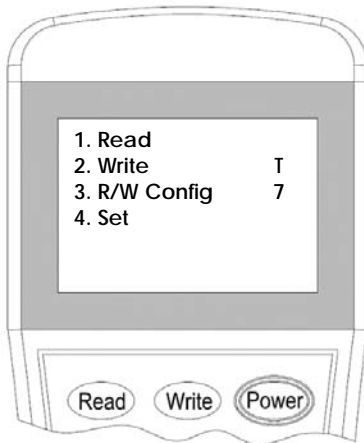

Figure 16
3. Switch-on the programmer, then press button **"3"** to enter to Configuration mode (Figure 16).